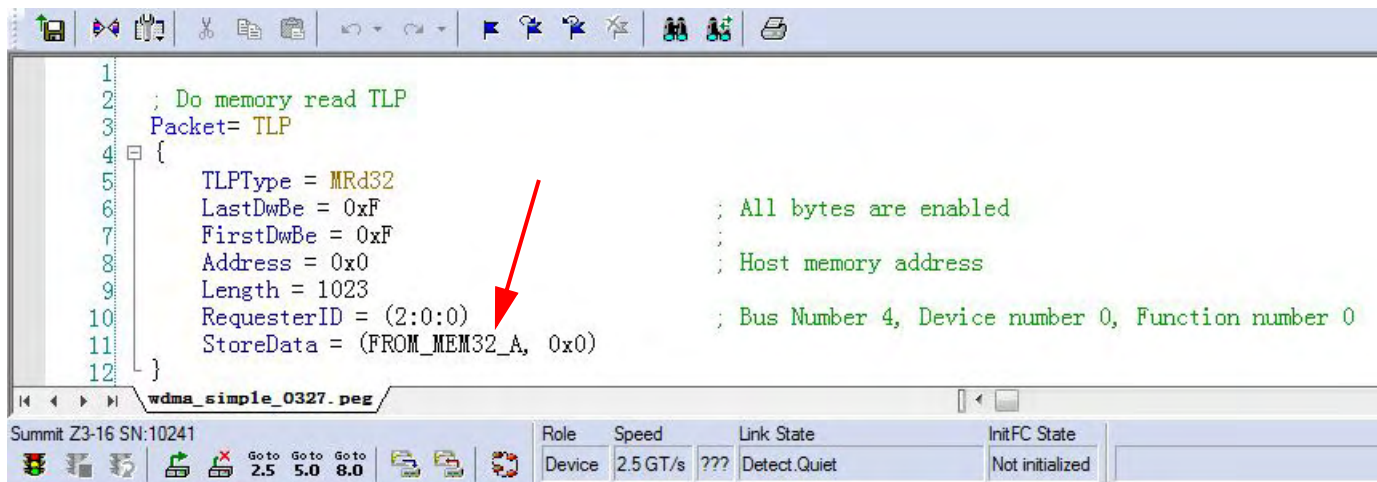

Figure 7.5: Completion Payload.
9. Run the MemRd script with StoreData and the completion payload will move to the local Summit Z3 memory (see Figure 7.5 on page 96).